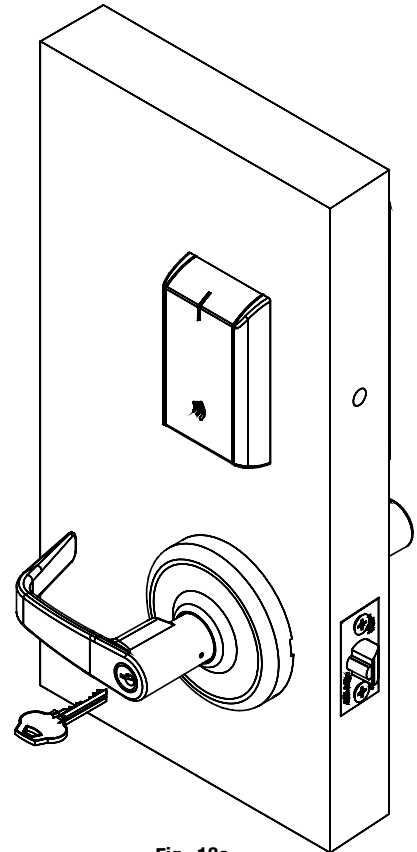

Fig. 13a
- Insert key into cylinder and rotate (Fig. 13a).